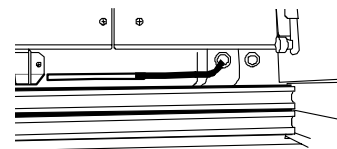

Fig. 3
- 2) If holes can be drilled in the wall, drill a 10.5mm diameter hole and fix the unit by using the special bolt-nut supplied. This bolt-nut can only be used on a concrete wall. See Fig. 3.
6. Lead the sensor of the recorder in the chamber through the hole after taking out the thermal insulation from it as shown in Fig. 3.